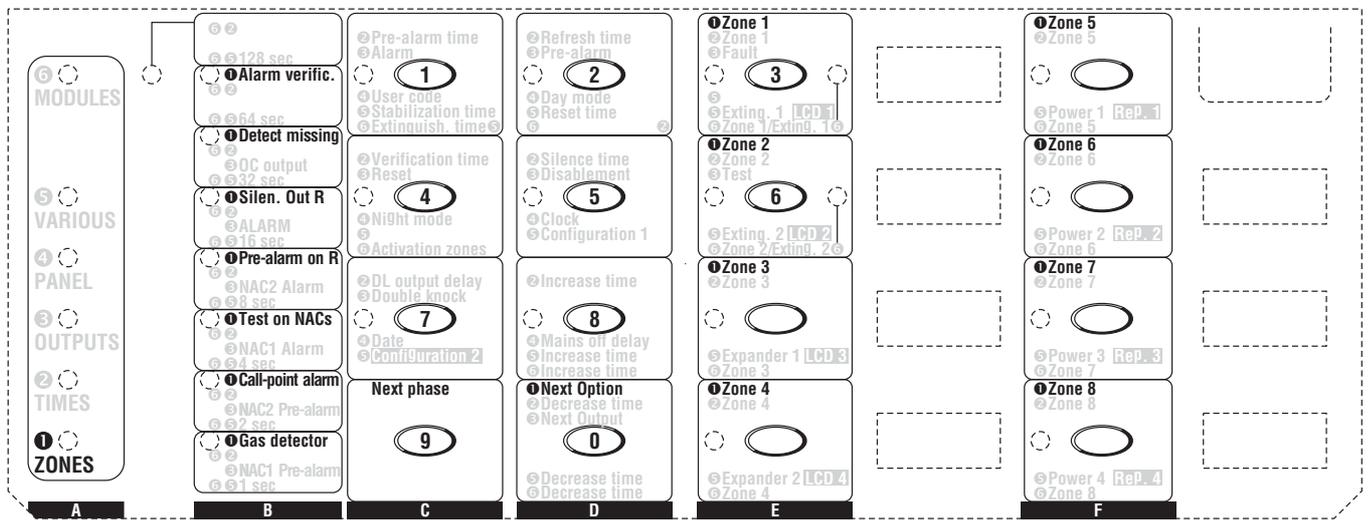

Figure 29 Programming the Zones
The **ZONES** LED will blink to indicate that the system is ready to start the programming procedure. During this phase, the keys and LEDs will operate in accordance with the options preceded by ❶ in the panes on the Programming Overlay, see Figure 29.
1. Using the **Next option** key (0 column D), select the option you want to program. The respective LED will go On (see column B).
3. Go back to step 1 to program another zone option **or**, press the **Next phase** key 9 to go to the following Programming Phase (see column A).